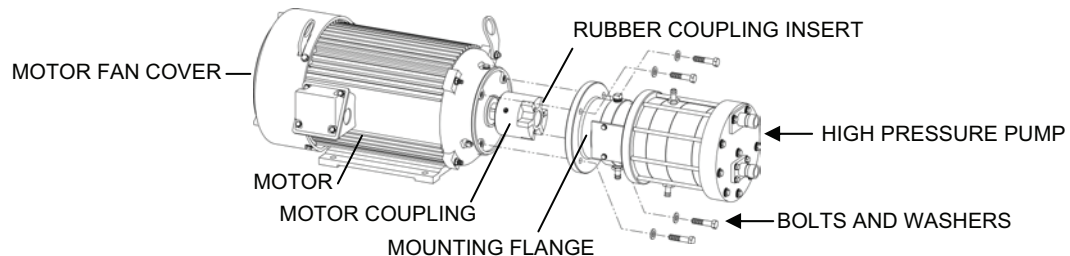

Figure 2. Removing the High Pressure Pump from Its Motor.
- 1) Remove the four motor fan cover screws and the motor fan cover (see Figure 2).